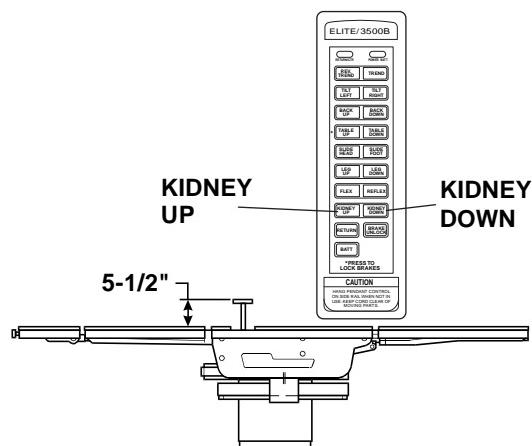

Figure 3-14. Kidney Lift Positioning
**i. Kidney Lift.** To raise the built-in kidney lift, press the KIDNEY-UP button (figure 3-14). Up to 5-1/2 inches of lift can be achieved. Press the KIDNEY-DOWN button to lower the kidney lift.